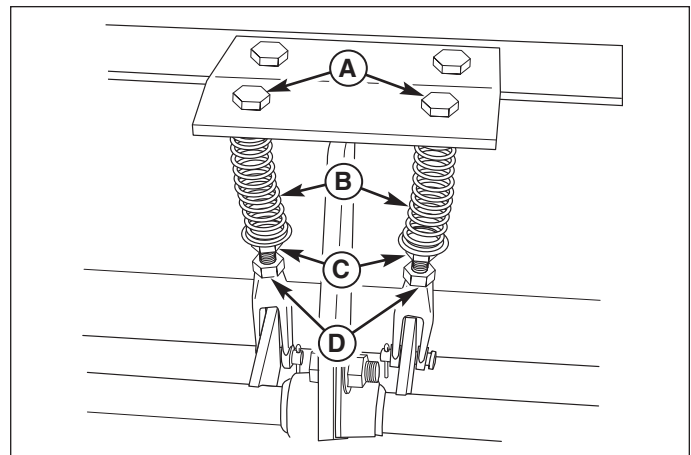

Figure 33. Neutral Spring Return Adjustment
3. Move the ground speed control levers towards the neutral position. If the levers do not align with the notches in the neutral lock plate, it is necessary to adjust the reverse return bolts (A, Figure 33).
1. Loosen the jam nut (D, Figure 33) locked against the clevis.
2. Turn the reverse return bolt (A) clockwise to adjust handle rearward, counter-clockwise to adjust handle forward.
After adjusting the neutral position, lock the levers in the neutral position and measure the reverse return spring (B, Figure 33) length. This should be 2-3/8" long. If not, hold the reverse return bolt (A) with a wrench while turning the spring position nut (C) until the measurement is achieved.